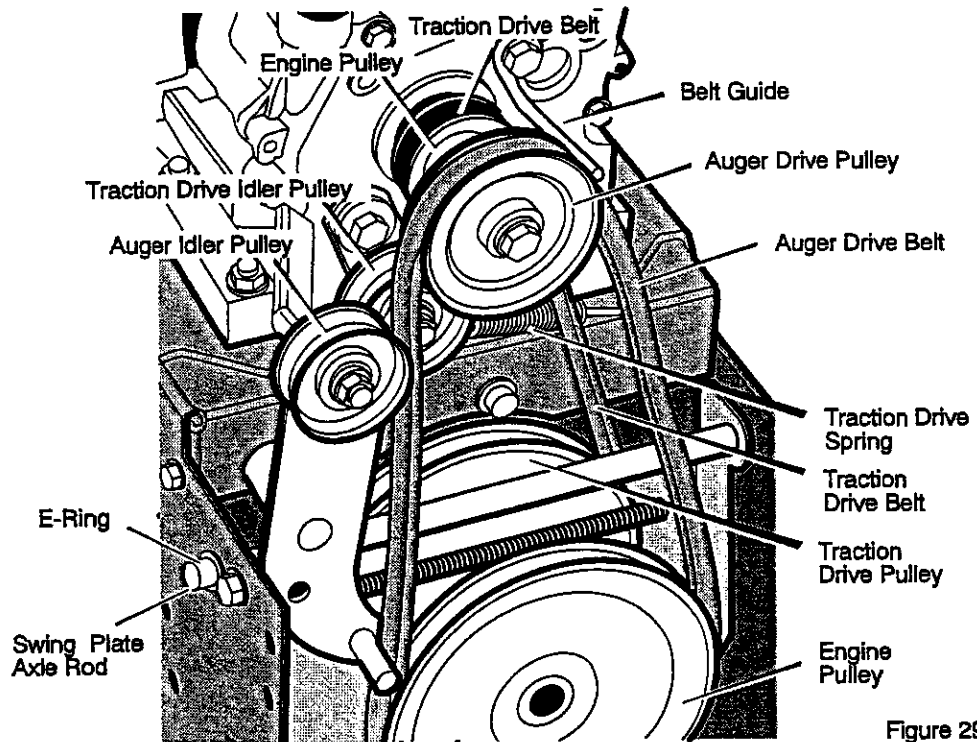

Figure 29
3. Loosen nut on auger idler pulley and move auger idler pulley towards belt about 1/8 inch (3 mm) (see Figure 29).
5. Loosen the belt guide. Pull the belt guide away from the auger drive pulley (see Figure 29).
9. Remove the old auger drive belt from the auger drive pulley. Replace the auger drive belt with an original factory replacement belt available from an authorized service center (see Figure 29).
3. Remove the e-ring from one end of the **swing plate axle rod**. Remove the **swing plate axle rod** to allow the swing plate to pivot forward (see Figure 29).